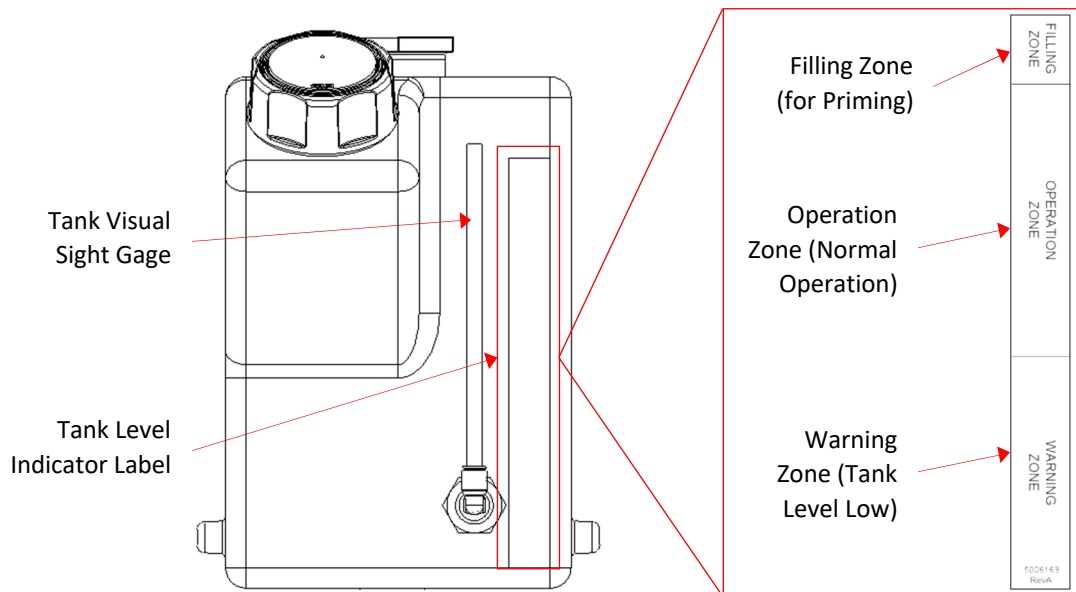

Figure 2-33: Tank Front View
7. Fill the tank up with the provided coolant up to its **Filling Zone** shown on the **Tank Level Indicator Label**. The tank level can be monitored by the visual level gage (refer to Figure 2-33). ***A filling Funnel with Screen is provided in the Ship Loose Box for easier filling of the tank (refer to 2.4).***